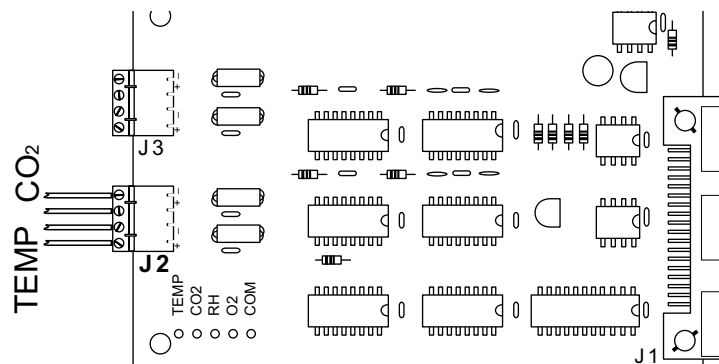

Figure 6-4. Connectors on Board
3. Strip the ends of the conductor and wire it to the appropriate terminals of connectors J2 on the analog board. Refer to Figure 6-4.